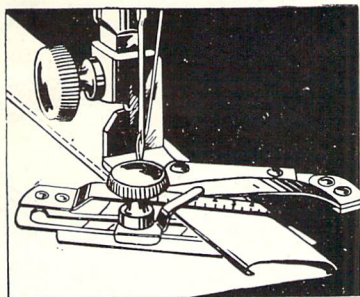

Fig. 45. Showing How Adjustable Hemmer is Used for Making Hems Up to $\frac{15}{16}$ Inch Wide.
2. Place the cloth in the hemmer and draw it back and forth until the hem is formed, as shown in Fig. 45.